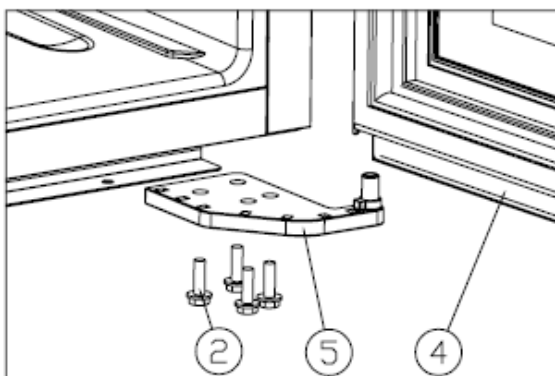

Figure 2
Unscrew the M5\*16screws (2), dismantle the right lower hinge (5). [Figure 2]